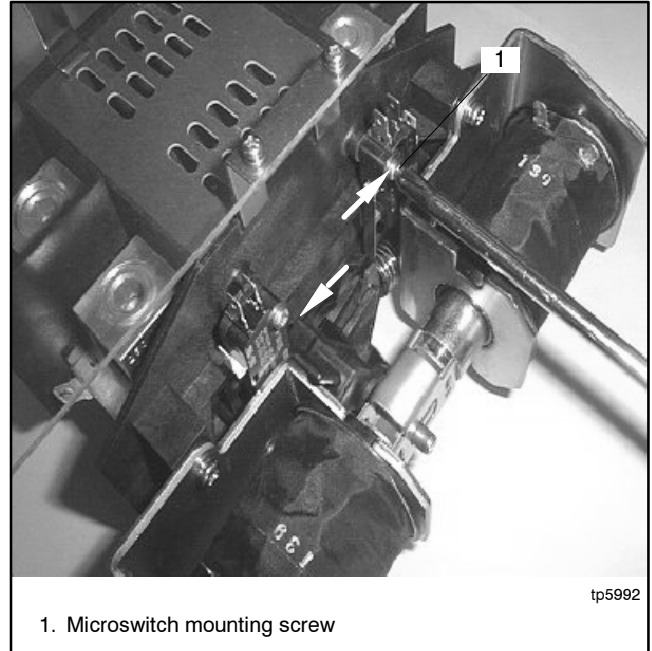

Figure 6-12 Install new Microswitch, 200 Amp Models
1. Remove the microswitch mounting screw and microswitch. See Figure 6-12.
2. Install the new microswitch. Push the microswitch mounting screw in the direction of the arrow shown in Figure 6-12 and tighten it to 0.44 Nm (4 in. lb.).